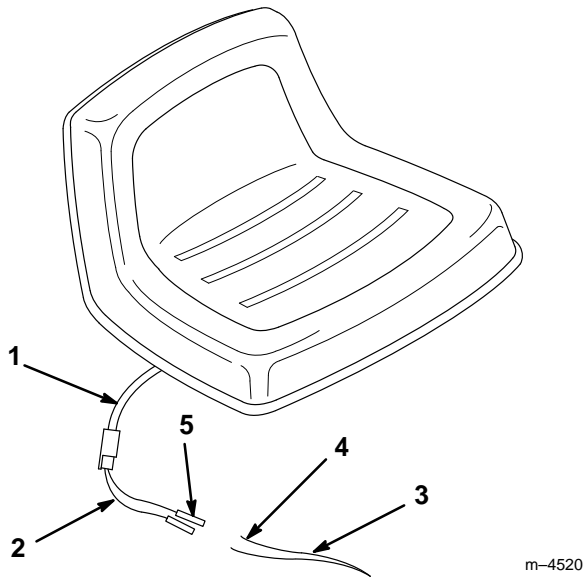

Figure 1
4. Install the wire harness adapter by sliding the wire connectors onto the stripped ends and crimping with a pair of wire crimpers (Fig. 1).
2. Remove the connector from the tractor wiring harness by cutting the wires at the connector (Fig.1).
3. Strip the insulation back on each wire approximately 1/4" (Fig.1).